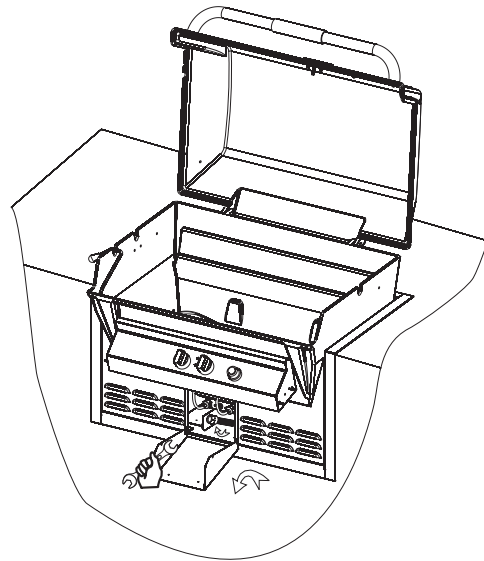

Figure 8
9. Open control housing and connect flex line to the main valve, then close the control housing door. Figure 8.